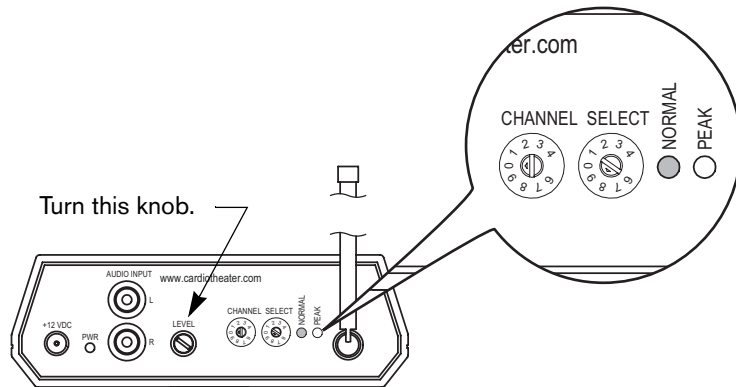

Figure 2: Watch the lights to adjust volume appropriately
12. Set the sound level so users receive a consistent sound level. You will need to look at the back of the transmitter to perform this step. See Figure 2.